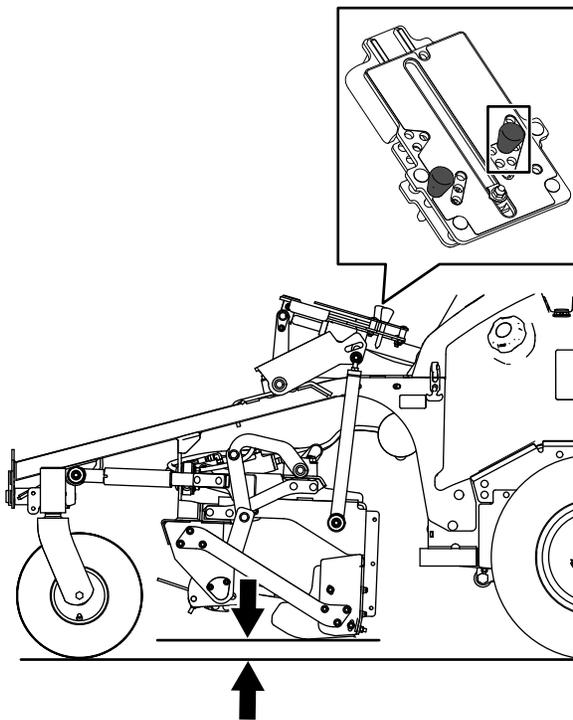

Figure 46
- Above-grade attachment-stop hole (Figure 46)